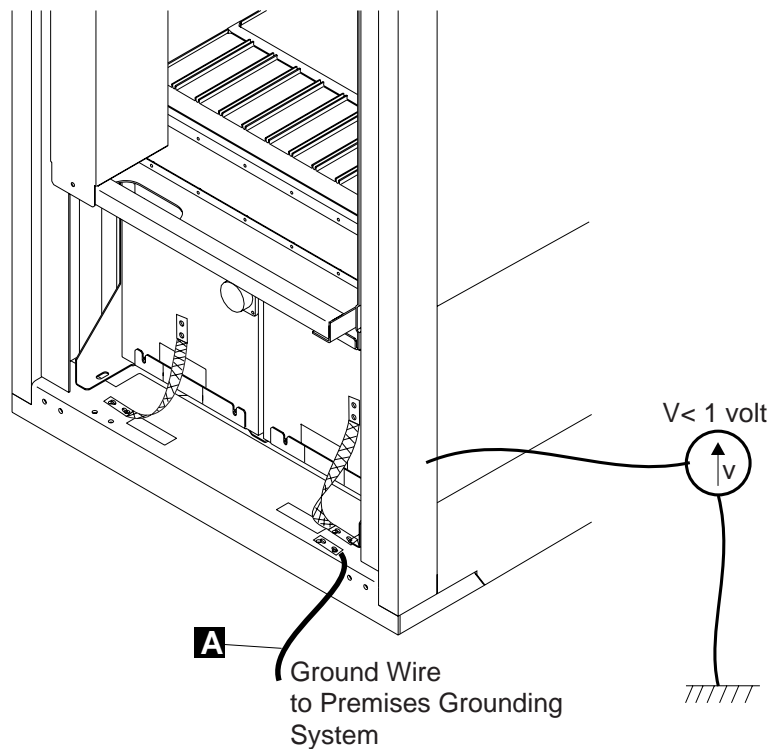

Figure 36. Nways Switch Grounding Requirements
- A user-supplied wire. The grounding point location and grounding wire diameter are given on Figure 36 on page 118.
1. In all cases, the voltage measured between the machine frame and the ground (not the ground source connection) must be less than 1 Volt as shown in Figure 36.